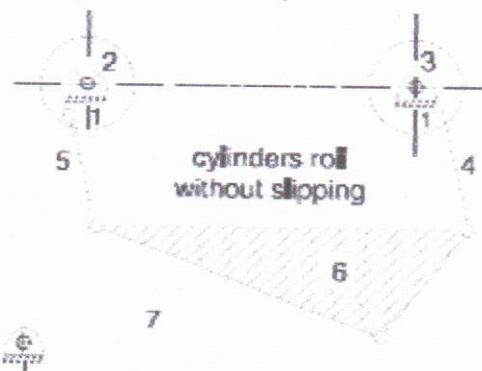

Fig.1
- b. Determine the mobility (degrees of freedom) of the mechanism shown in Fig.1